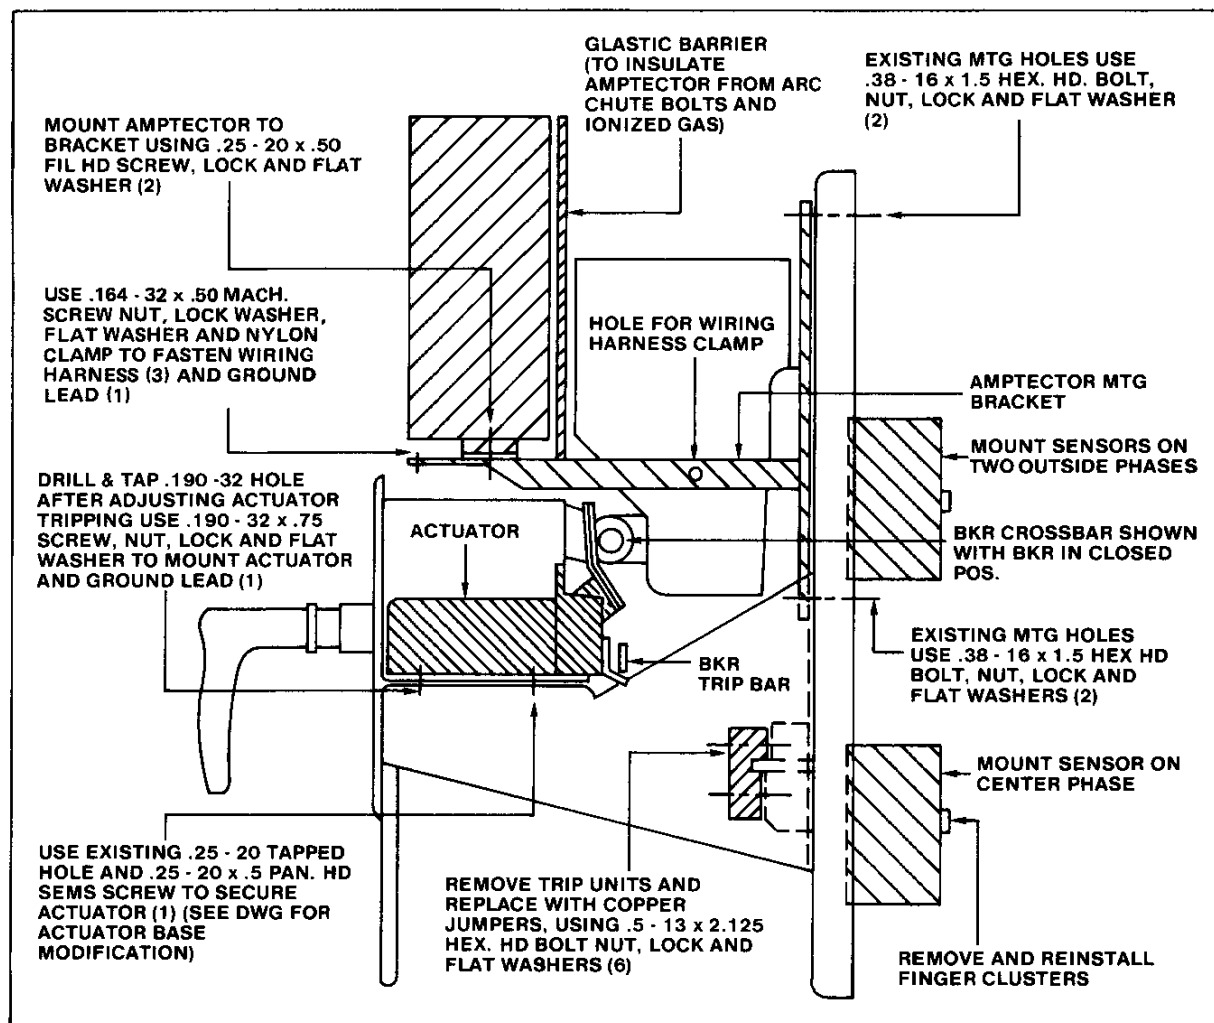

Fig. 16 Right Side View of DB-15
(Multi-Currents 100-150-225 Amps See Fig. 16)
- B. Familiarize yourself with right hand side view of breaker, see Fig. 16.